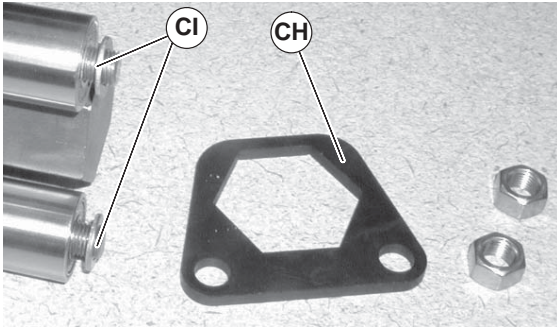

Figure 70
6. Remove support plates (Figure 70, item CH) and washers (CI).